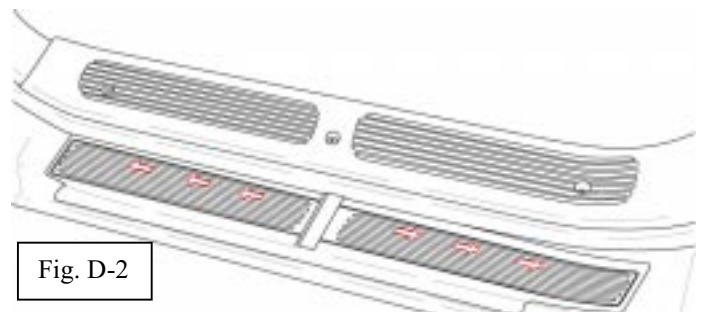

Fig. D-2
- ➡ 4. Using a felt block, squeegee the applique to the vehicle on the horizontal surface starting in the center and working out to each end with smooth overlapping strokes. (Fig. D-2)